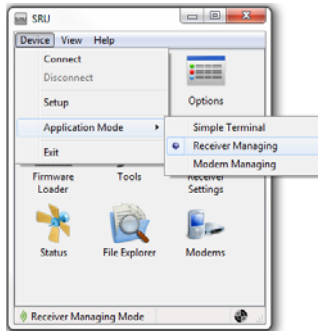

Figure 2-6. Application Mode
To establish a connection to a receiver via Bluetooth, take the following steps (Figure 2-6):
3. Click **Device ▶ Application Mode ▶ Receiver Managing** (Figure 2-6 on page 2-7):